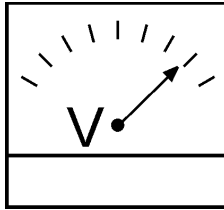

Figure 42. Frequency Meter
6. The generator's AC-volmeter (Figure 42) will display the generator's output in **VOLTS**..